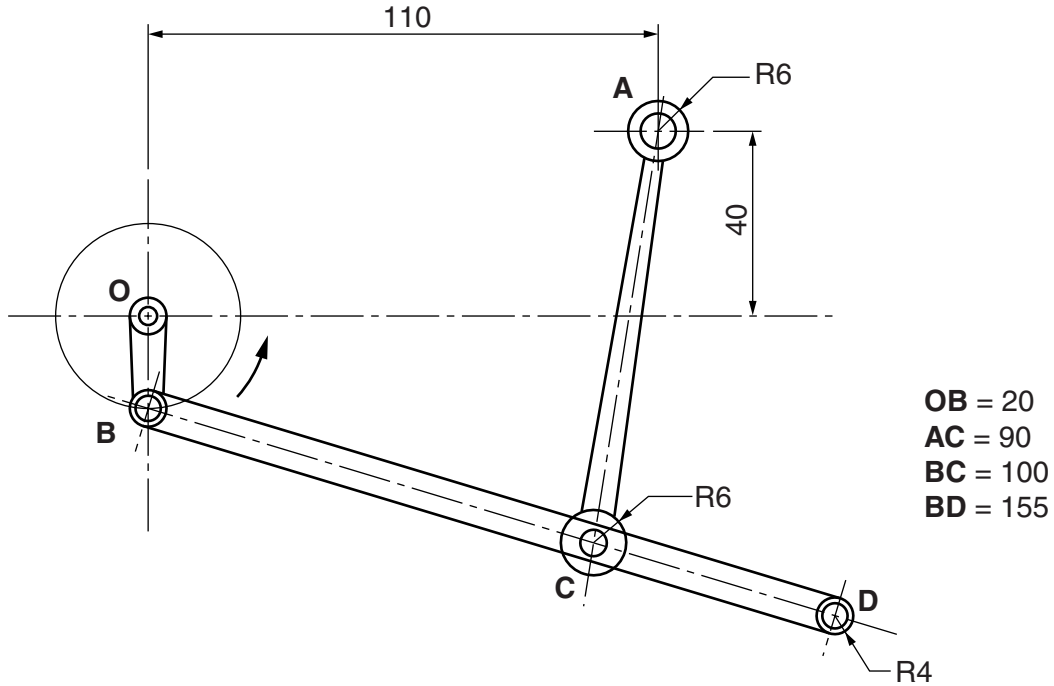

Fig. 4
- 8 Fig. 4 shows a linkage mechanism.